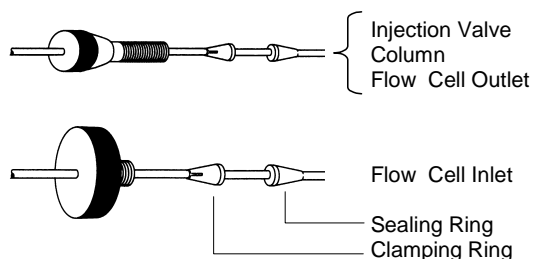

Fig. 4 DYNASEAL Capillary connections
2. Push the bushing, the clamping ring, and the sealing ring onto the capillary. Please take care on the sequence and orientation of fittings, see Fig. 4 „DYNASEAL Capillary connections“.
5. Connect the flow cell outlet (6) using a capillary or teflon tube (ID > 0,5 mm) to a waste bottle.